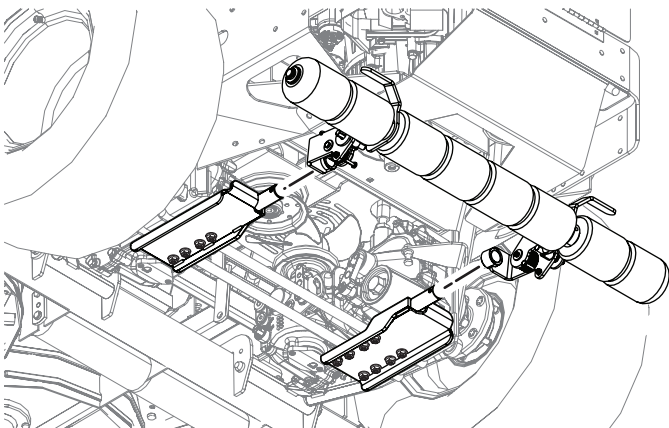

Figure 2-13. Install Roller Assembly
- Install the Striper Roller Assembly (p/n 923G) to the mounting brackets and secure with the quick pins. See Figure 2-13.